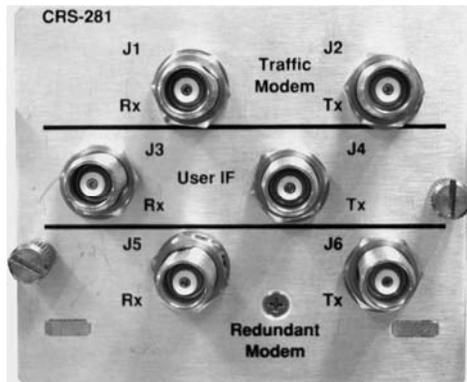

Figure 1-17. CRS-281 IF Switch Module:
- CRS-281 (70/140 MHz IF) with Type 'BNC' (75Ω or 50Ω) connectors (**Figure 1-17**);